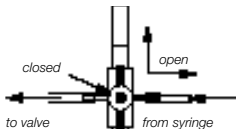

Fig. 22
- Turn the three-way faucet as shown in fig. 22 and fill the manometer to at least 5 cmH₂O.
- Turn the three-way faucet as shown in fig. 22 and fill the manometer to 10 cmH₂O above the expected opening pressure. (Example: For testing a proGAV 2.0 with an opening pressure setting of 5 cmH₂O horizontal and 25 cmH₂O vertical, the manometer is filled to 15 cmH₂O with the shunt in a horizontal position and to 40 cmH₂O with the shunt in a vertical position.)